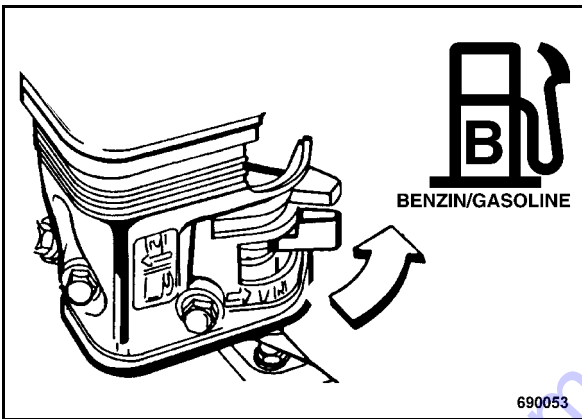

Fig. 17
- Open the fuel cock (Fig. 17) by turning in direction of arrow to the end stop.